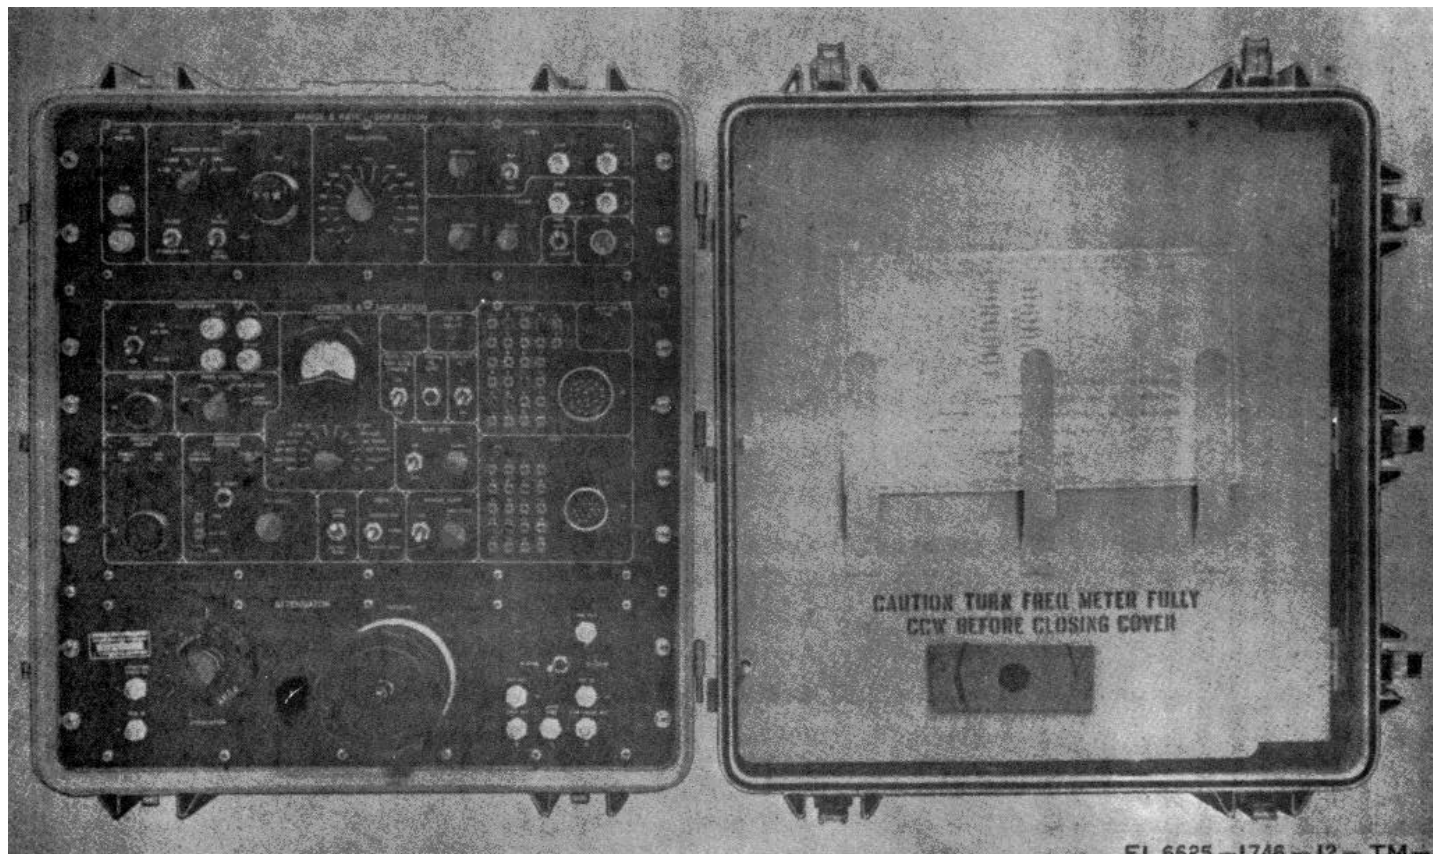

Figure 1-1. Test Set, Radar Altimeter System AN/APM-323 (less cable assemblies iv and accessories).
This manual describes Test Set, Radar Altimeter System AN/APM-323 (system test set) (fig. 1-1 and 1-2) and covers its installation, operation, and organizational maintenance. Included are instructions for operation under usual and unusual conditions, cleaning, inspection, troubleshooting, and replacement of items available to the operator and organizational repairman.
d. *Case, Test Set CY-6789/APM (fig. 1-1).* The test set case provides a protective cover for transport or storage when closed, and an operational bench mounting when open. The test set case opens in two sections: one section contains mounting positions for the system test set panels,